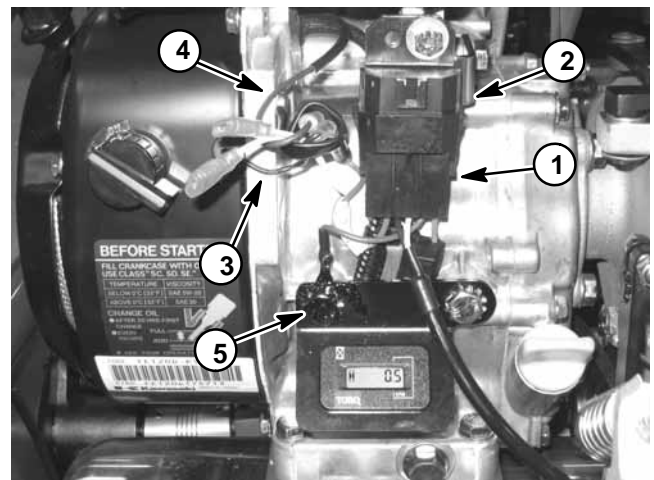

Figure 8
5. Disconnect electrical connections from engine (Fig. 8):
- A. Make sure that four (4) set screws are secure in engine crankcase cover. If set screws were removed from engine cover, apply Loctite #242 (or equivalent) to set screw threads, install into engine cover and tighten securely.
- B. Install new flange gasket (item 2) to set screws on crankcase cover.
- E. Install and finger tighten four (4) flange nuts that secure gearbox assembly to set screws on engine crankcase cover.
- F. Install four (4) cap screws with flat washers through the engine and engine base. Put flange nut on each cap screw and hand tighten.
5. Connect electrical connections to engine (Fig. 8):